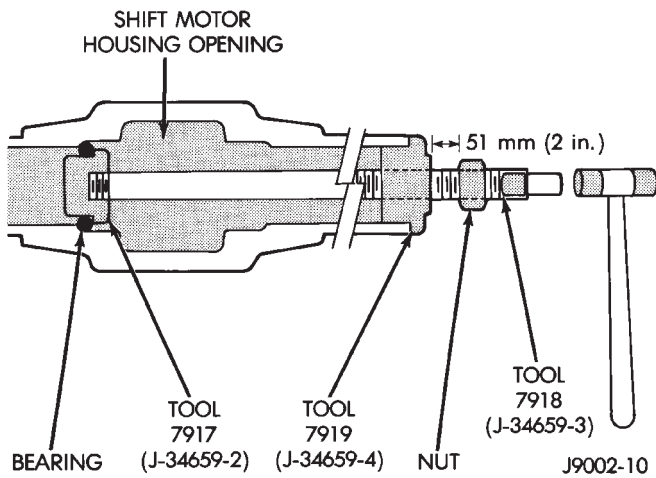
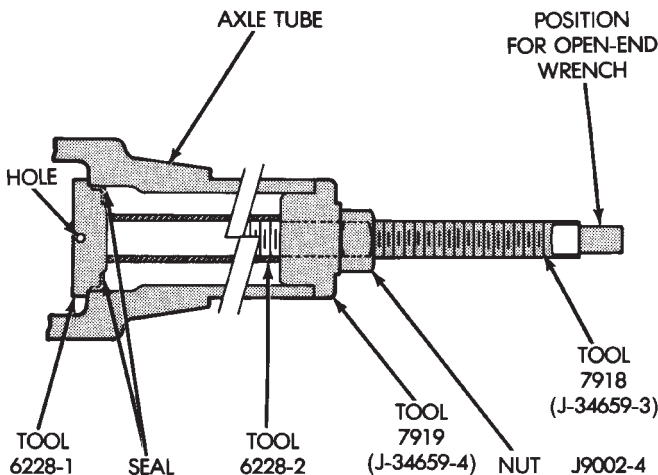

Fig. 15 Intermediate Shaft Bearing Installation
Fig. 16 Primary Installation of Seal (Step One)
- (1) Position the bearing on installation tool. Seat the bearing in the housing bore (Fig. 15).
- (2) Clean the inside perimeter of the axle shaft tube with fine crocus cloth.
- (3) Apply a light film of oil to the inside lip of the new axle shaft seal.
- (4) Install the inner axle seal (Fig. 16, 17).